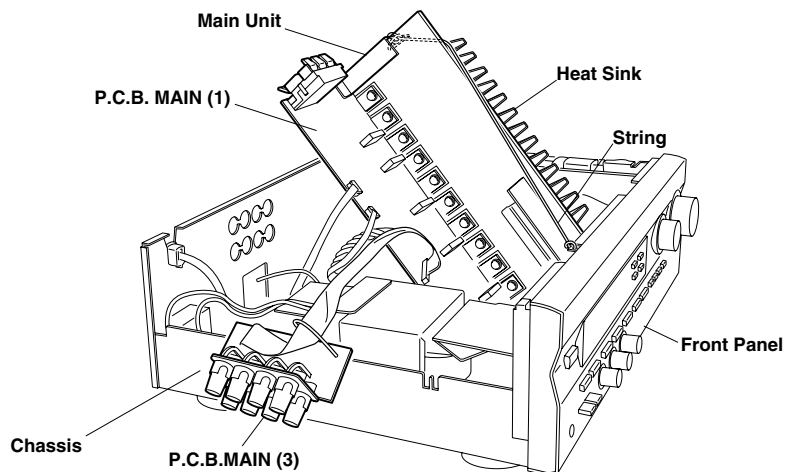

Fig.4
- Take out the P.C.B. MAIN (3) to Left side in Fig. 4.
- While pull out the Main Unit to the Front Panel side, place the Main Unit on its side as shown in Fig. 4.
- Connect to ground by shorting G201 on P.C.B. MAIN (1) and the chassis.
- Insert the insulator seet (Cloth, Paper or equivalent) so that unshorted the between bottom side of P.C.B. MAIN (1) and the chassis.
- Using a string, fix the between screw-hole of the Heat Sink and screw-hole of the Front Panel in Fig. 4.